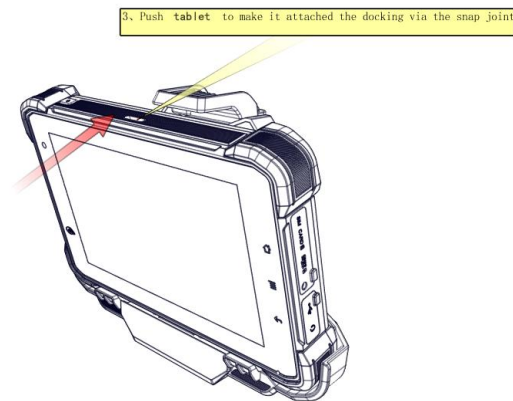

Figure 3
4.1.3 Push VT-7GA/VT-7GE to make it attached the docking via snap joint, as Figure 3 shown.